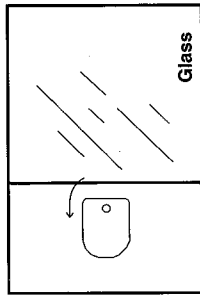

Fig. 1.
- (d) The air gap at the rear allows the warmed air to pass out of the cabinet. If cabinets extend up to the ceiling, the warm air must be exhausted through to the front. Fig. 1.
- Turn the brackets so that the glass can be removed and cleaned at the sink (Fig. 1.)